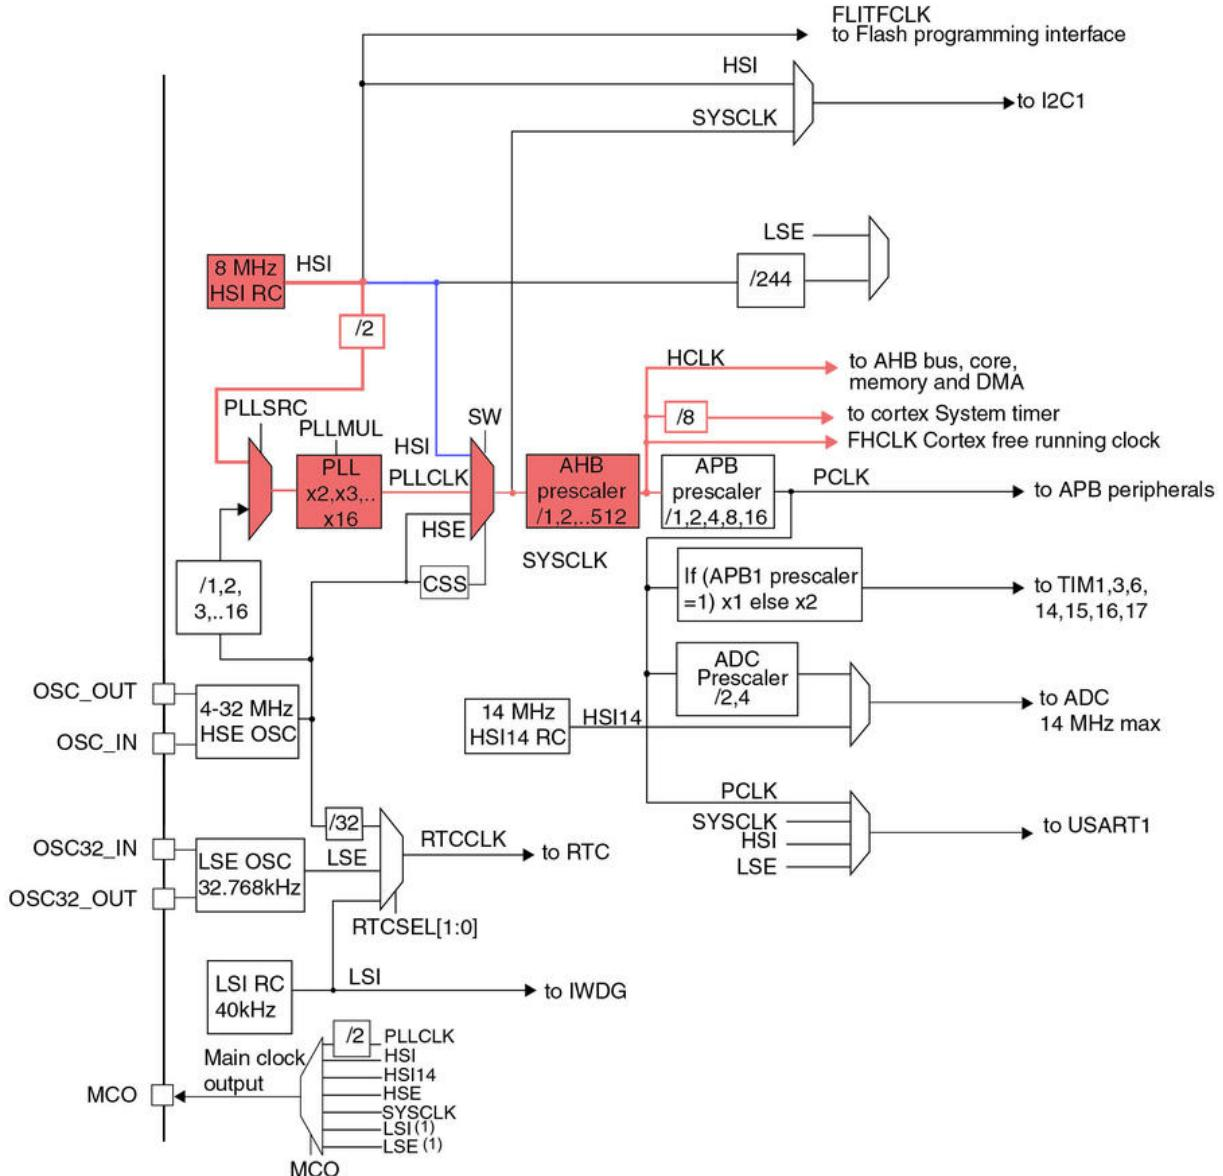

Figure 3: The clock tree of an STM32F030R8 MCU
Figure 3 shows the clock tree of one of the simplest STM32 microcontrollers: the STM32F030R8. It
The path starts from the internal 8MHz oscillator. As said before, it is an RC oscillator factory-calibrated by ST for 1% accuracy at a ambient temperature of 25 °C. The HSI clock can then be used to feed the *System Clock Switch* (SW) as is (path highlighted in blue in Figure 3) or it can be used to feed the PLL multiplier after it has been divided by two thanks to an intermediate prescaler⁹. The main PLL so can multiply the 4MHz clock up to 12 times to obtain the maximum *System Clock Frequency* (SYSCLK) of 48MHz. The SYSCLK source can be used to feed the I2C1 peripheral (in alternative to the HSI) and another intermediate prescaler, the AHB prescaler, which can be used to lower the *High (speed) Clock* (HCLK), which in turn biases the AHB bus, the core and the *SysTimer*.
Even in this case, the most relevant paths of the clock tree have been highlighted in red and blue. This should simplify the comparison with the Figure 3. When a new project is created, by default CubeMX chooses the HSI oscillator as default clock source. HSI is also chosen as default clock source for the *System Clock Switch* (path in blue), as shown in Figure 4. This means that, for the MCU we are considering here, the Cortex-M core frequency will be equal to 8MHz.